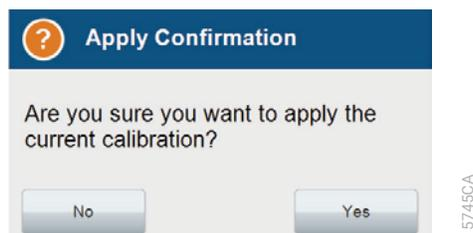

Figure 42. 'Apply Spectral Calibration' confirmation window.
7. After reviewing the results, select **Finish**. This will open a confirmation window. Select **Yes** to apply the spectral calibration results (Figure 42). The spectral calibration result will not be saved unless you select **Yes** on this window.